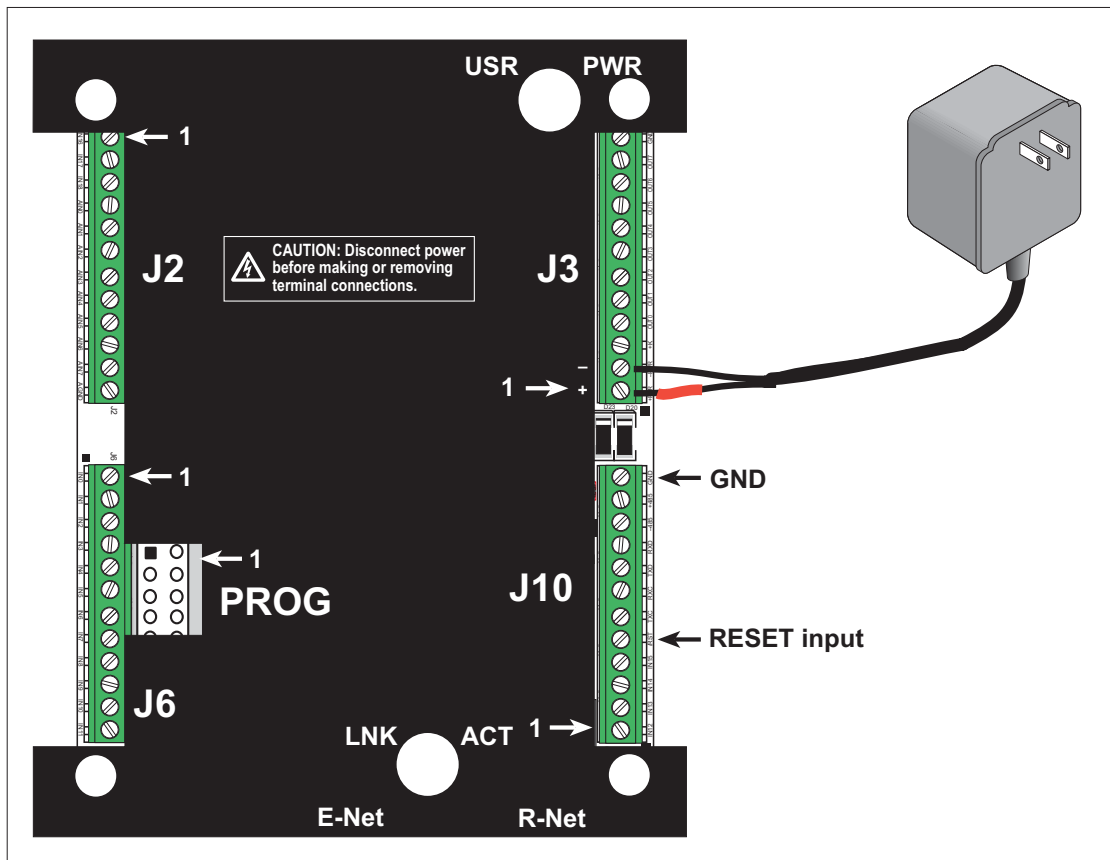

Figure 2. Power Supply Connections
1. Connect the bare ends of the power supply to the **+PWR** and **-PWR** positions on pins 1 and 2 of screw terminal header J3 as shown in Figure 2. The polarity of your connections is not important because the power-supply circuit has a full-wave bridge rectifier.